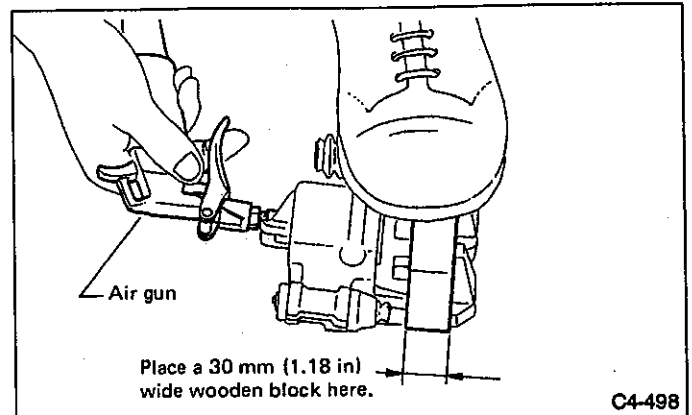

Fig. 74
- a. Place a wooden block as shown in Fig. 74 to prevent damage to piston.